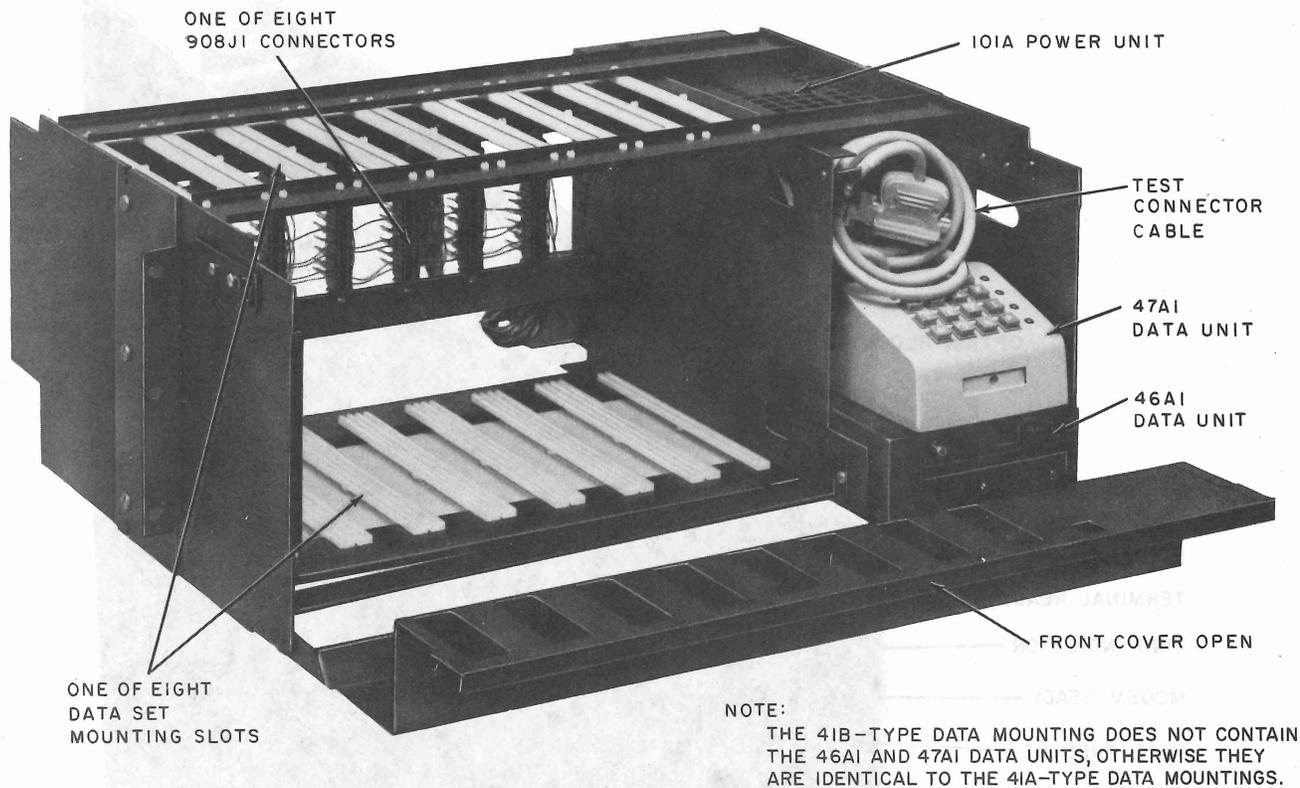

Fig. 4—41A-Type Data Mounting With Front Cover Open
**2.05** The 41A data mounting (Fig. 4) contains a test unit and is approximately 23 inches wide, 8.67 inches high, and 16.5 inches deep. It mounts on a 23-inch rack and weighs approximately 42 pounds. The 41A1 and 41A2 data mountings are supplied with a KS-14532-L16 power cord. The 41B1 and 41B2 data mountings have the same